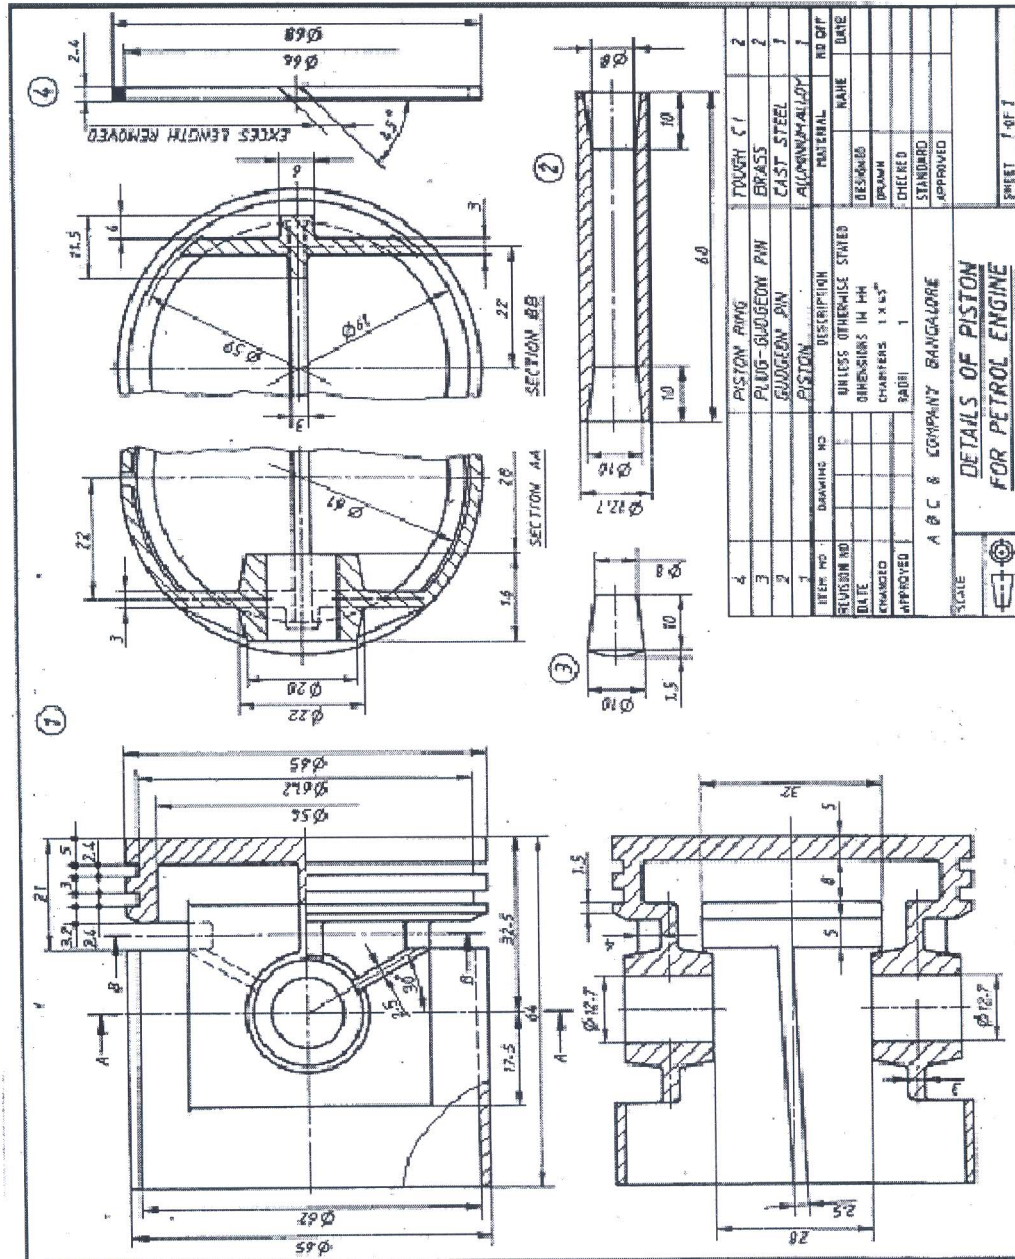

Figure 3
6. Details of a Machine Vice are shown in figure 3. Draw the following views of the assembly: (i) Half sectional front view showing fixed jaw in section and (ii) Top View.